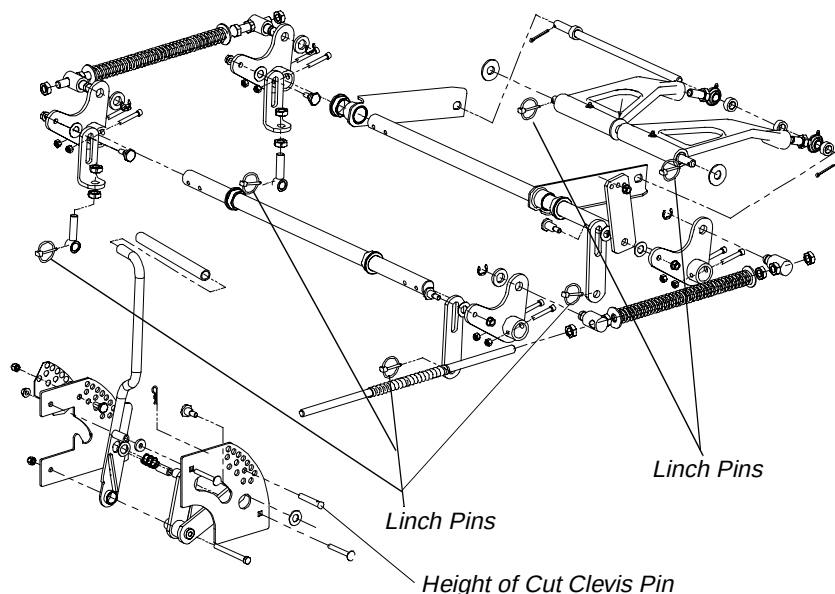

Figure. 6
- e. Remove six lynchpins (See Fig. 6) (4) from the deck and (2) from the front of the mower. Remove the lynchpins on the left and right rear side of the cutter deck (2); remove the lynchpins on the left and right front side of the cutter deck (2); and remove the lynchpins on the front of the mower (2).